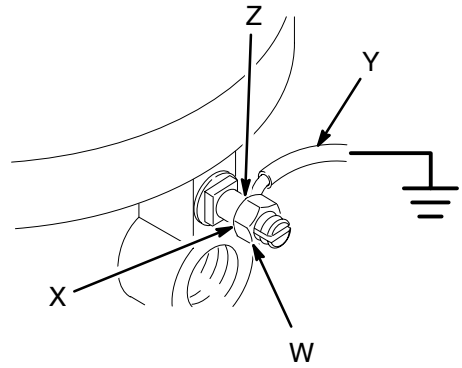

Fig. 1
1. *Pump*: use the ground wire and clamp. See Fig. 1. Loosen the grounding lug locknut (W) and washer (X). Insert one end of a 12 ga (1.5 mm²) minimum ground wire (Y) into the slot in lug (Z) and tighten the locknut securely. Connect the other end of the wire to a true earth ground. Order Part No. 237569 Ground Wire and Clamp.
4. *Surge tank*: use a ground wire and clamp. See Fig. 1.